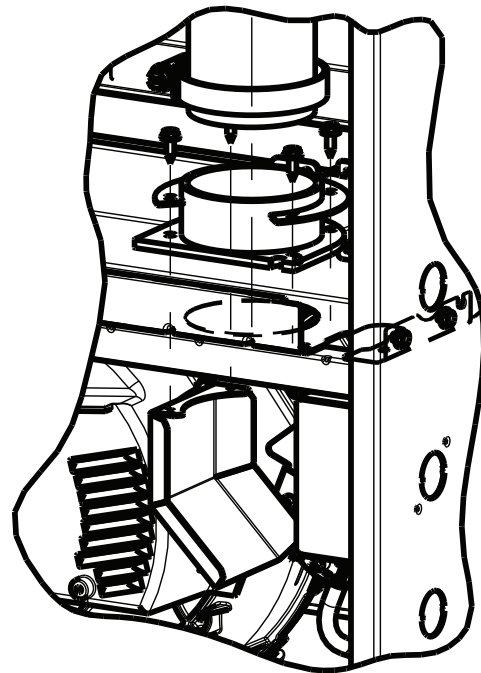

Fig. 6 - Rain Shield and Right Blower Shelf Seal Installation
9. If installing this kit into a 14 or 17 inch wide furnace, a rain shield is required. Attach the rain shield to the blower shelf seal assembly for the combustion air pipe. Alignment of the rain shield is shown in Fig. 6 And 7.